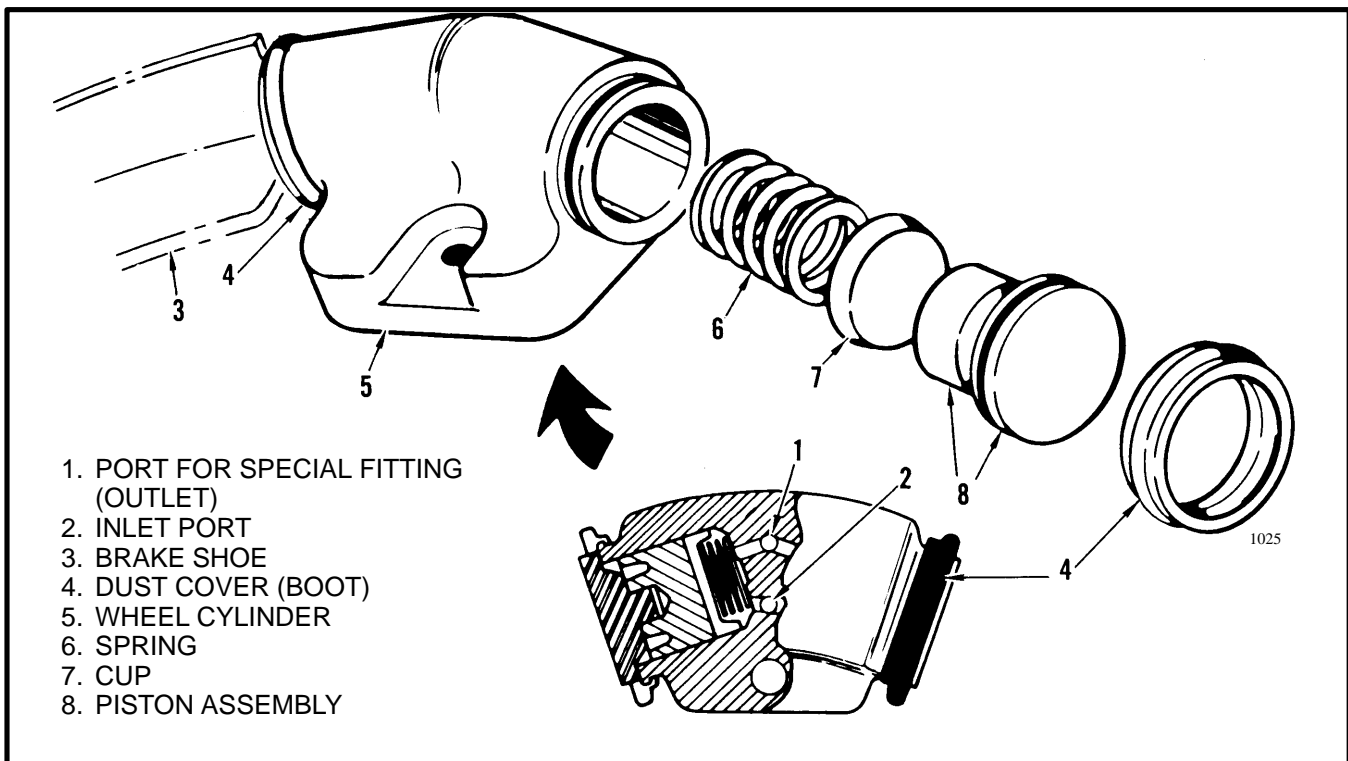

FIGURE 9. WHEEL CYLINDER
1. Assemble the wheel cylinder as shown in FIGURE 9. Use only HYSTER APPROVED parts.